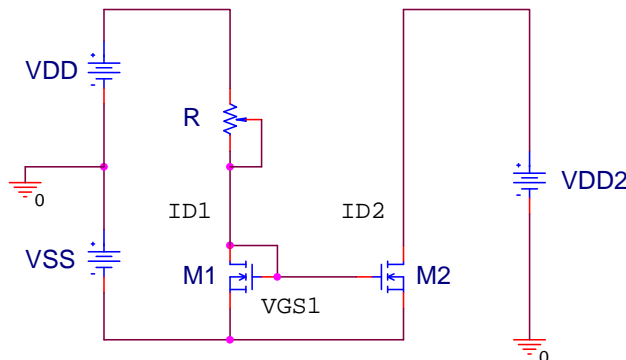
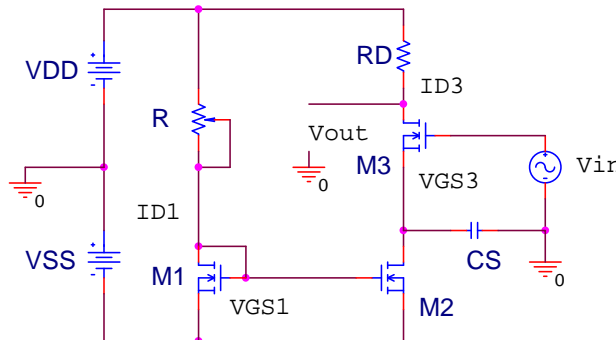
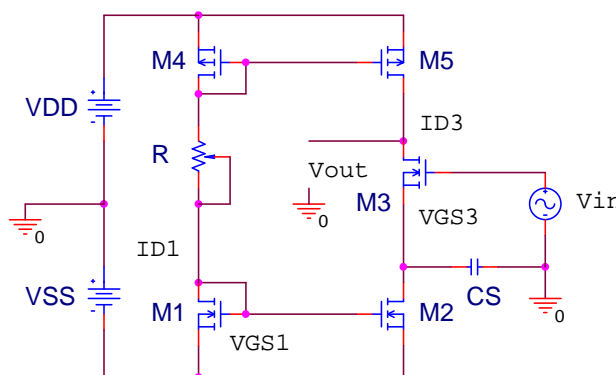

Figure 2.
Figure 3
Figure 4.
Current mirror can be constructed using (gate-3, source-4, drain-5) and (gate-6, source/body-7, drain-8) NMOS transistors from CD4007 array as M1 and M2, respectively, in circuit shown in Figure 2. For a given power supply voltage the value of I_{D1} can be set by adjusting the potentiometer R. The current I_{D1} is to be mirrored to I_{D2} but, as we have learned in lab 1, will depend on V_{DD2} due to finite small signal output resistance of M2.
Consider the circuit in Figure 3. M3 NMOS can be made out of (1,2,3,4) pins of ALD1105. Here the input signal is applied directly to gate of M3. The output signal is taken from drain of M3 with respect to ground. R_D serves as a resistive load, i.e. determines the transistor gain and limits output swing. Bypass capacitor C_S is required to obtain gain otherwise the current through M3 would not change (well, almost would not change) and no (actually, almost no) output will be produced in response to the input.
In Figure 3 circuit, the drain-to-source voltage of M2 should be above $V_{GS1} - V_{TM2}$ not to drive M2 into nonsaturation. Also, source of M3 should be at voltage smaller than $-V_{TM3}$ to have M3 open. Value of R_D is selected based on desired gain and output voltage swing.
Figure 4 shows the CS amplifier loaded with current source. This current source is made of basic PMOS current mirror. Both PMOS transistors from ALD1105 are used to construct this active load.
This value is often much larger than gain of the amplifier with resistive load. Clearly, the value of R has to be adjusted to keep M2 bias the same as in Figure 3 circuit since extra voltage will drop across M4. Also, M5 will restrict maximum positive voltage swing at the output.
3.1. For the circuit in Figure 2 assume $V_{DD} = V_{SS} = 5$ V. For both M1 and M2 assume $V_T = 1$ V and $W/L \cdot k_n = 0.8$ mA/V². Estimate R required to have drain current ID1 equal to 250 μ A. Find the corresponding value of gate-to-source voltage of M1 and M2. Determine the minimum value of VDD2 for M2 to remain in saturation.
3.2. For the circuit in Figure 3 assume that M3 is biased with 250 μ A. Assume $V_{DD} = V_{SS} = 5$ V. For M3 assume $V_T = 0.7$ V. Estimate the maximum value of RD to have negative output voltage swing of 1 V.
3.3. For the circuit in Figure 4 assume M1 parameters from 3.1, $V_{DD} = V_{SS} = 5$ V. For M4 assume $V_T = -0.7$ V. Estimate the maximum value of R to have ID1 = 250 μ A. Ignore overdrive voltage for M4 in this rough estimation.
4.1. Build the circuit shown in Figure 2 using $V_{DD} = V_{DD2} = V_{SS} = 5$ V. Select 50 k Ω potentiometer and adjust it to obtain $I_{D1} = 250$ μ A. Measure V_{GS1} and I_{D2} . Measure the actual value of R .
4.2. Augment circuit from Figure 2 with R_D and NMOS (ALD1105) to obtain circuit from Figure 3. At this point do not use C_S and do not connect any signal source, i.e. ground gate of M_3 . Select R_D according to your prelab calculation (it is in the range from 10 to 20 k Ω). Adjust potentiometer R to obtain DC drain currents of M_3 equal to 200, 250 and 300 μ A. Measure corresponding values of V_{GS} for M_3 .
4.4. Augment the circuit from Figure 3 with PMOS transistors (ALD1105) to obtain the circuit from Figure 4 (of course, remove R_D). Adjust R to have 250 μ A bias for M_3 . Measure V_{GS} for M_4 . Reduce amplitude of the input signal (you might want to use voltage divider) to obtain undistorted output waveform. Measure the open circuit voltage gain of the amplifier with active load.